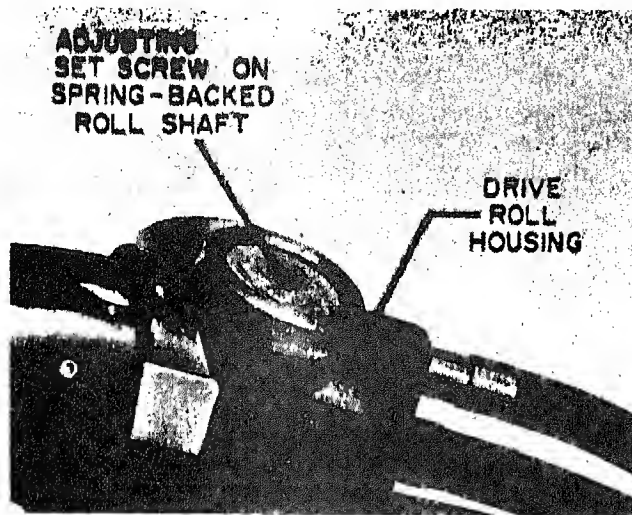

Figure 9. Adjusting Setcrew for Conical Roll Shaft
b. Back off adjusting set screw (Fig. 9) on right-hand disc of drive roll housing to relieve pressure on conical roll shaft.
j. Turn adjusting setscrew (Fig. 9) slowly clockwise until conical roll presses on wire within grooved roll. Compression should be just enough for positive wire drive.